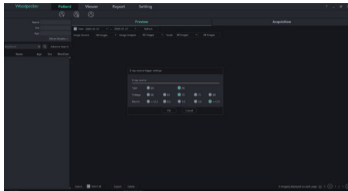

Figure 27
c) When the software is used for the first time, the user will be prompted to set the relevant parameters of the clinic's X-ray source. X-ray sources are divided into power frequency, medium frequency and high frequency. Select AC (Alternating Current mode) for power frequency and DC (Direct Current mode) for medium and high frequency. Triggerthreshold is the X-ray dose trigger threshold. The voltage and current are set according to the X-ray source parameters, as shown in Figure 27: